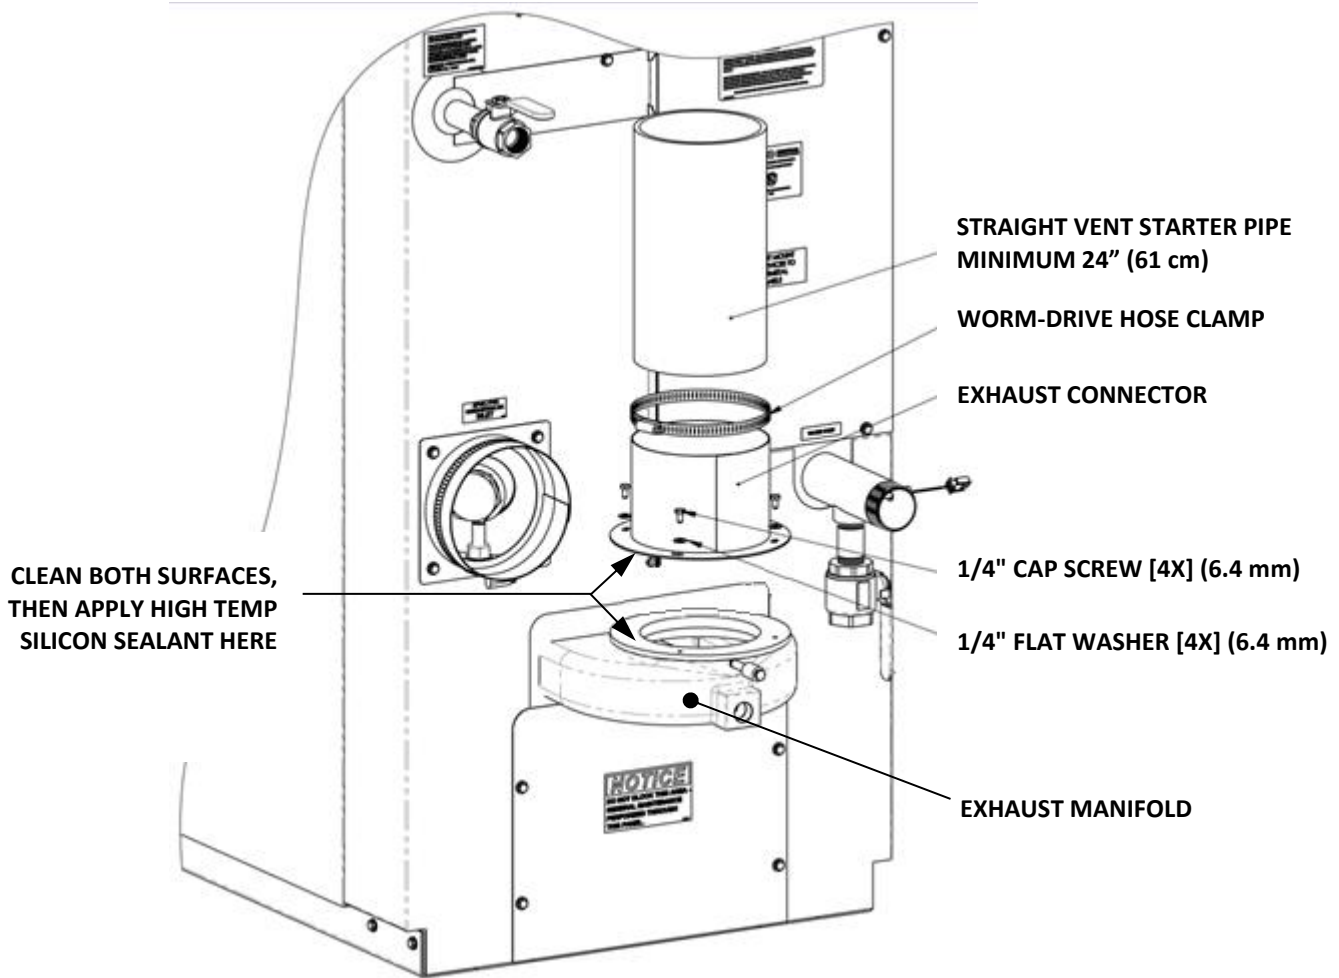

Figure 8: Vent Installation onto Water Heater – Innovation Shown
2. Install vent pipe beginning at the water heater exhaust manifold and work toward the vent cap. **The first section (starter section) must be straight for a minimum of 24 inches (61 cm).** Start by cleaning the top surface of the exhaust manifold and the mating flange section of the duct starter piece with an alcohol swab and then apply a bead of high temperature red silicon sealant (such as Permatex Hi-Temp Red RTV or Loctite Superflex Red High Temp RTV) to that surface (see Figure 8, below).